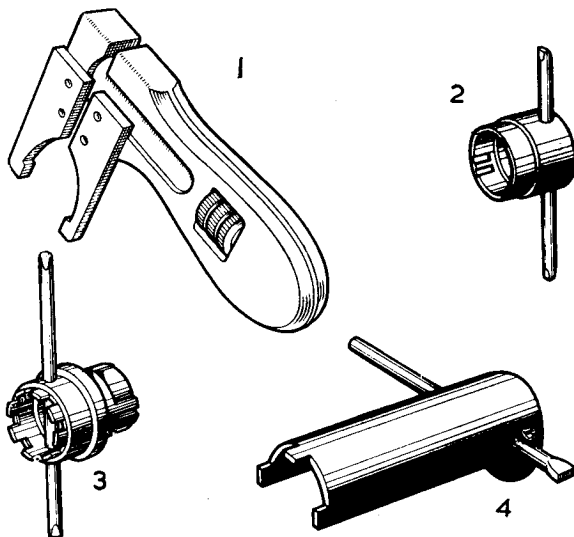
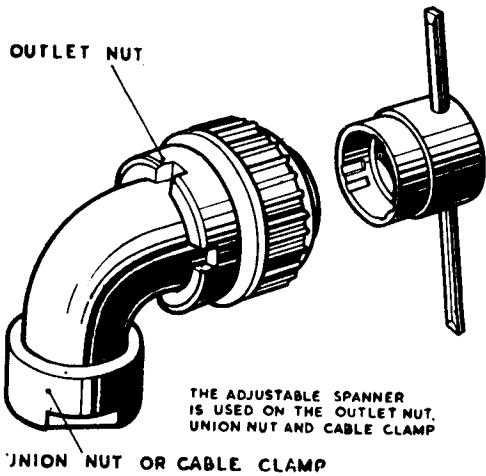
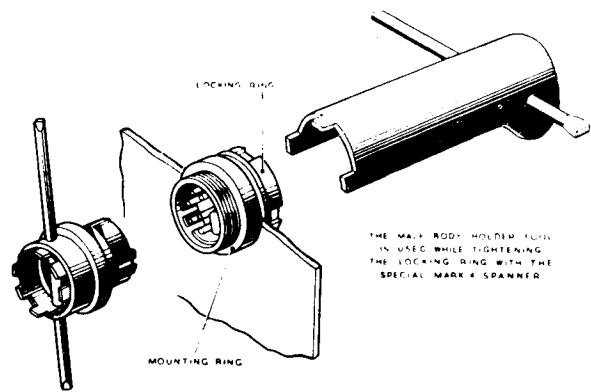

Fig. 2. Tool kit for Mk. 4 plugs and sockets
Fig. 3. Method of tightening free items
Fig. 4. Method of tightening fixed items
39. The set of tools required for assembling and mounting Mk. 4 plugs and sockets is shown in fig. 2. The special Mk. 4 spanner, the male body-holder and the female body-holder are all available in three sizes, corresponding to large, medium and small shells. When assembling free members, the female body-holder is used to grip the body assembly (fig. 3), while the outlet nut, etc., is tightened with the adjustable spanner. With fixed members, the body assembly is gripped by the male body-holder (fig. 4), while the locking ring is tightened with the Mk. 4 spanner.